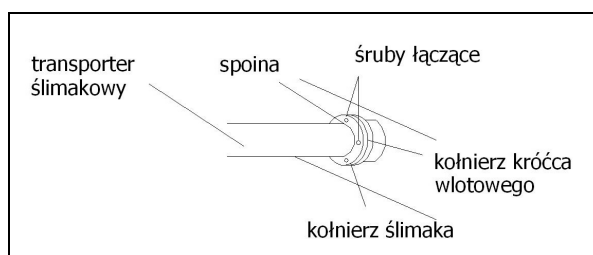

Fig.5 Connection of screw feeder with furnace block
2. To furnace attach the fuel tank with the screw feeder system (fig.5). Screw feeder should be welded to the flange the included in the kit (that will be connected to the inlet opening flange with bolts). Connection is to be made after exact setting of the tank and feeder against the boiler.